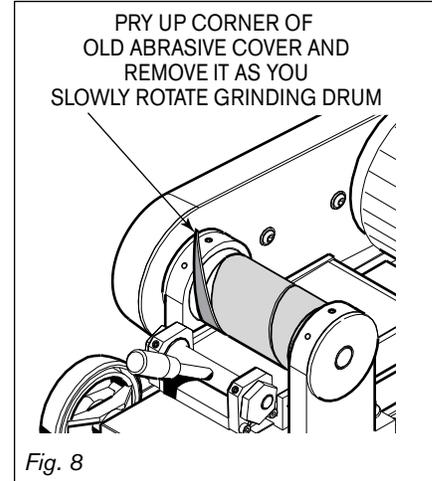

Fig. 8
3. Using a utility knife, carefully pry up the end of the abrasive cover along the edge of the drum (Fig 8).
4. Carefully peel off the abrasive by slowly turning the grinding drum as shown in Fig. 8.